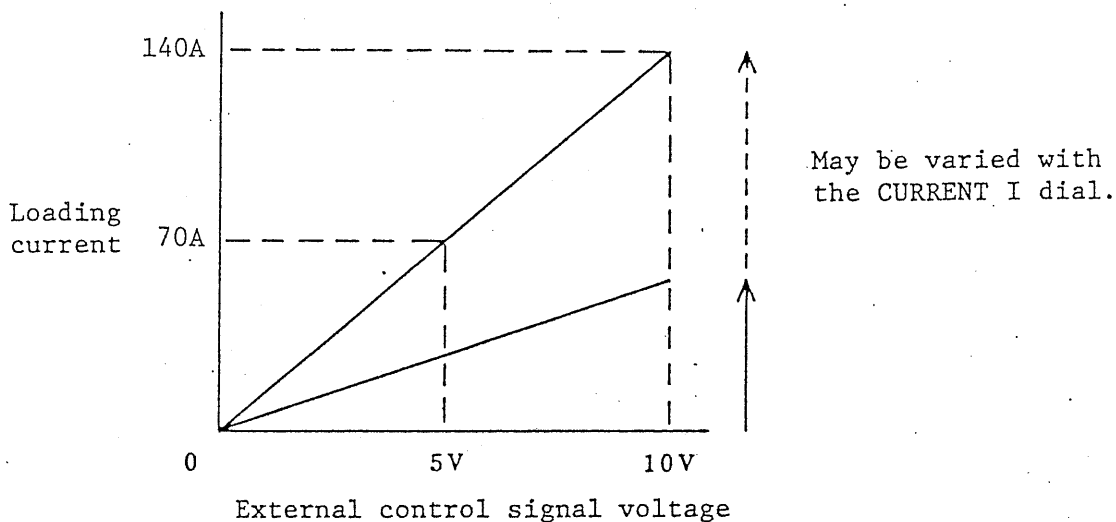

Figure 2-12-2
See Fig. 2-12-2.
4. The relation between control signal voltage and loading current is adjusted such that the corresponding current to an input of 10 V, will be 140 A, as indicated in Fig. 2-12-2. The current value may be decreased with the CURRENT I dial. The control signal voltage should not exceed 10 V.